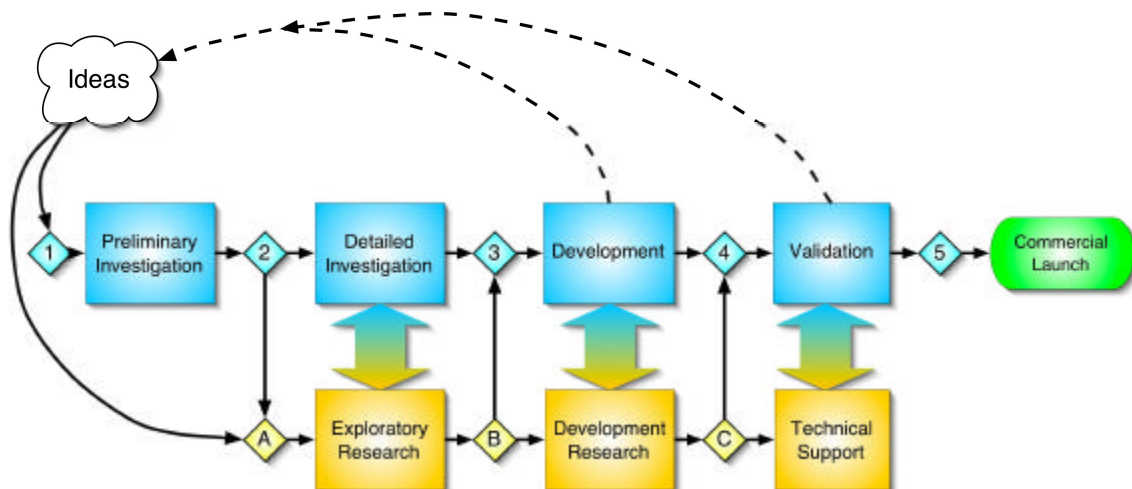

Figure 1: Stage Gate Management Process
The current Stage Gate process used by the Program is shown schematically in Figure 1. The basic approach is that there is a series of "Gates" to review projects and a series of "Stages" to accomplish the work necessary to move the project forward. There are two paths, or tracks, that a project can take depending on the planned outcomes from the project. The commercial track is for projects where the outcome is a commercial process or product. The research track is for more fundamental scientific projects. The two tracks are described in more detail below.
- **Stage 2: Detailed Investigation.** This is the critical homework stage where investigation and planning are the emphasis. Work must show the unique capabilities of the technology and demonstrate unproven steps in a laboratory setting. In Figure 1, the recycle arrow between Stage 2 and Stage A implies the kind of interaction that may be required when experiments to prove feasibility raise new and important scientific questions. A business plan should be developed that fully illustrates the market and route to commercialization. This will require assessments of customers, competitive technology, technical details, and financial evaluation based on process modeling. The technical assessment requires identification of routes and solutions to problems as well as what risks will be involved.